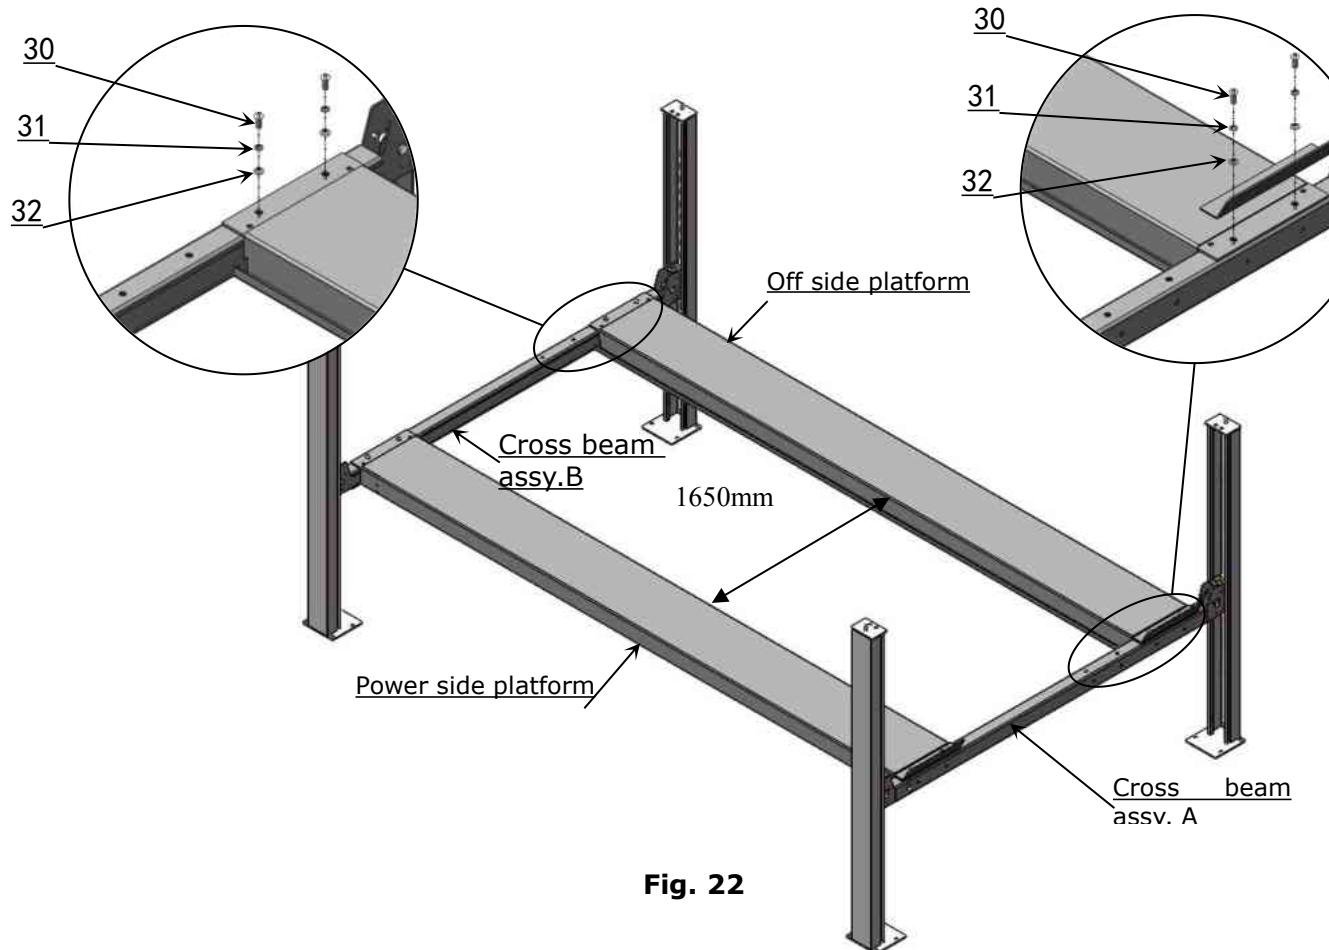
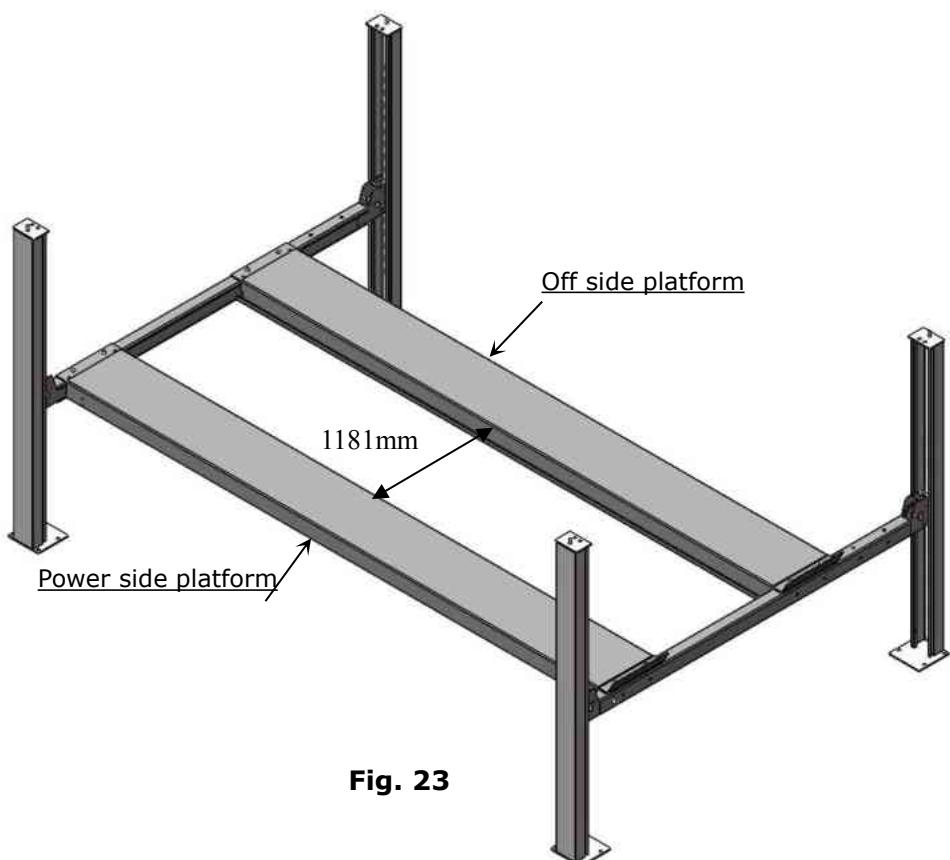

Fig. 22
Fig. 23
3. In the same way, place the off side platform on cross beams, align the holes and tighten with bolts. Fig 22 for wider installation, Fig 23 for narrow installation.